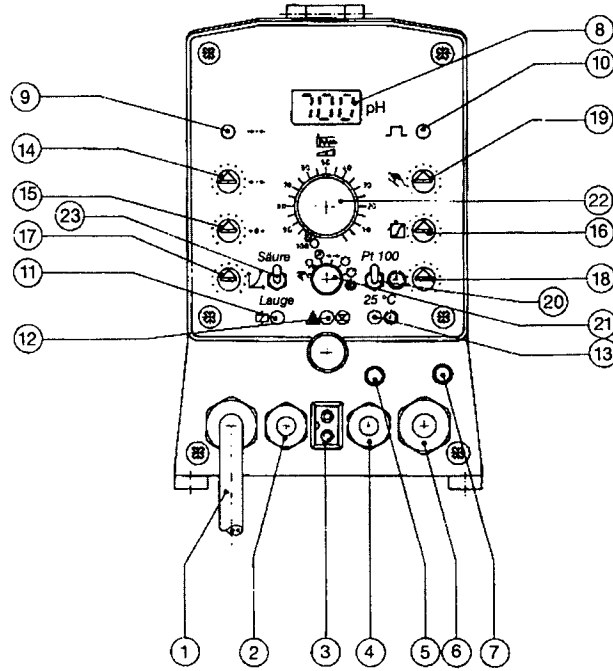

Figure 3-1 Front Panel Controls
3**OPERATION****SECTION 3 OPERATION****Section 3.1: Front Panel Controls (refer to Figure 3.1)**
1. Connect pH probe to connector #4 in Figure. 3.1.
2. Connect PT100 RTD to SN6 connector, if used. If automatic temperature compensation is desired, set toggle switch (#20 on Figure 3.1) to "PT100". If no RTD is connected, set toggle switch to "20C".
1. Move selector switch #21 on Figure 3-1 to "calibrate" position.
3. Rinse pH electrode with water. Immerse electrode into pH 7 buffer solution. Adjust potentiometer #15 on Figure 3-1 until display reads 7.0.
4. Remove pH probe from pH 7 buffer solution. Rinse the probe. Immerse the probe into either pH 4 or pH 10 buffer solution. Adjust probe span potentiometer #16 on Figure 3-1 until display reads pH 4 or pH 10.
1. Move selector switch #21 on Figure 3-1 to position #4 to display set point (refer to Front Panel controls).
2. Adjust potentiometer #14 on Figure 3-1 to desired pH level
3. Move selector switch #21 on Figure 3-1 to position #5 (refer to Front Panel controls). When using optional timer relay, set the above selector switch to position #6.
1. Move selector switch #21 on Figure 3-1 to position #1 (refer to Front Panel controls).
Refer to potentiometer #17 on Figure 3-1. When potentiometer is in the clockwise position, the pump will reach maximum frequency, which is a change of 1 pH unit from desired pH level. With potentiometer in the counterclockwise position, maximum frequency does not occur until there is a change of 3 pH units from desired pH level.